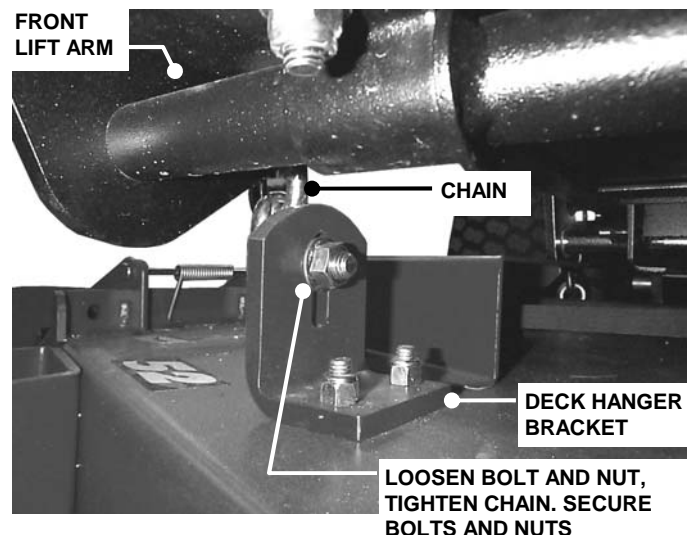

FIGURE 5.5
6. Loosen the nuts and bolts that secure both front deck support chains. Adjust chains until tight and retighten bolts and nuts. Torque to 20 to 30 ft. lbs. See Figure 5.5.